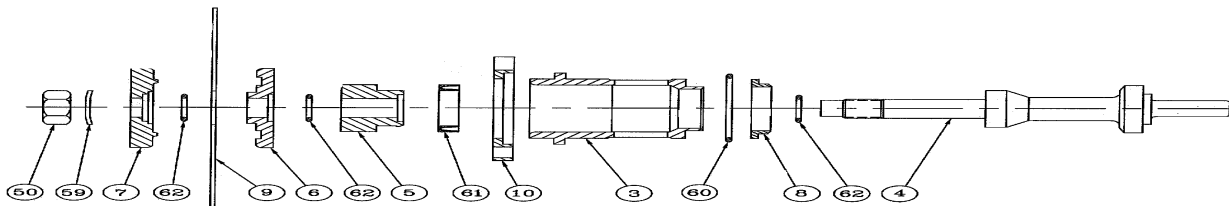

FIGURE 1
- d) Remove the complete inner trim by pulling up on the valve stem. The inner trim resembles the trim shown in **Figure 1**. (See drawing A8003 attached.)